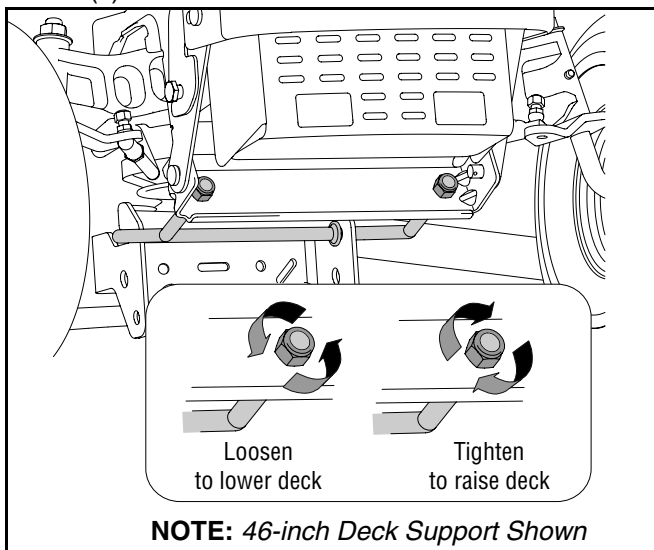

Figure 13
- Locate the lock nut(s) on the front side of the stabilizer bracket. See Figure 13. Tighten the lock nut(s) to raise the front of the deck; loosen the lock nut(s) to lower the front of the deck.